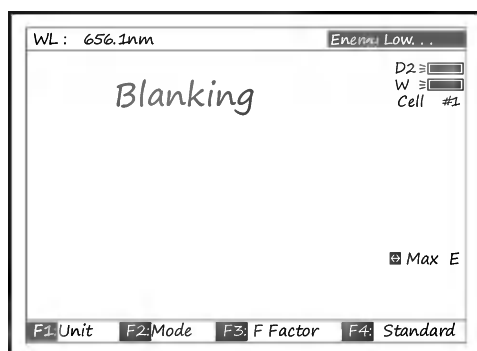
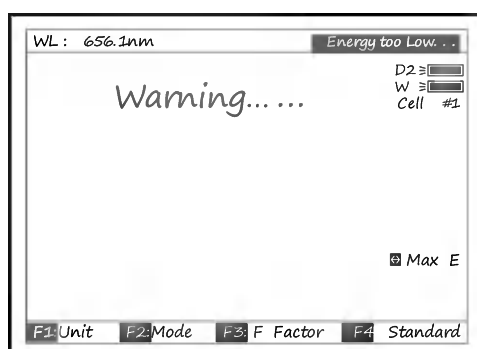

Fig 8
Fig 9
Note 1. If the reference solution is too thick, "Energy Low..." will appear following the "Blanking..." on the screen (Fig 8). If "Energy too Low..." appears following the "Blanking...", the test will be paused and "Warning..." will appear on the screen. (Fig 9).
2. If no automatic changer installed "cell #1" and "Max E" will disappear in Fig8